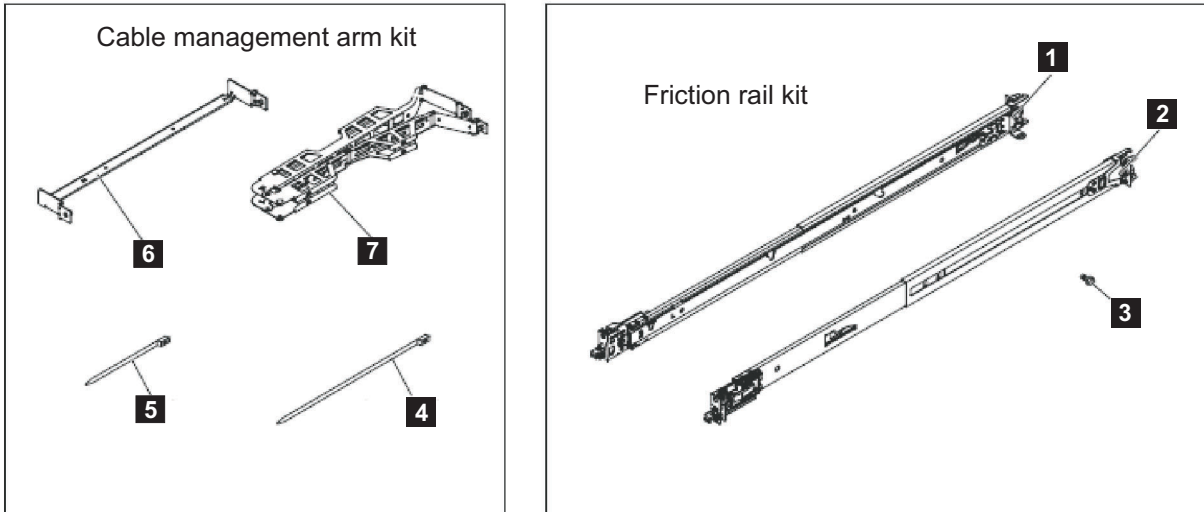

Figure 9. The cable-management arm, support rails, and associated parts of the 2145-CG8 and 2145-CF8
- | Figure 9 on page 27 shows the items that you need to install the SAN Volume Controller 2145-CG8 or 2145-CF8 node in a rack.